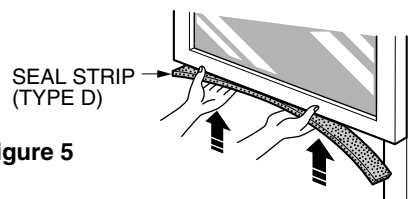

Figure 5
2. Cut the adhesive-backed seal strip (TYPE D) to the window width. Remove the backing from the seal strip and attach the seal strip to the underside of the bottom window. (Figure. 5)